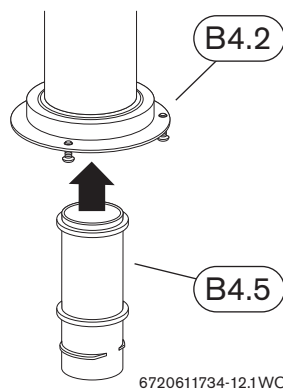

Fig. 12
- ▶ Partly slide the inner flue adaptor (B4.5) into the flue. See Fig. 12